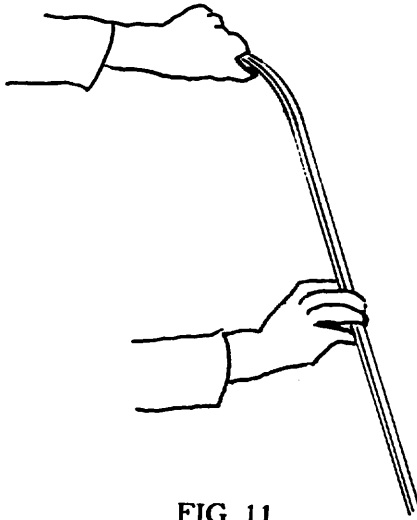

FIG 11
10) Remove the battens from the bag, lay them on the ground, and check them for symmetry, side to side. (Fig 11) Correct any that are assymetric.(See the tuning and maintenance sections of this manual for more information on batten shaping.) Separate the right side battens (those with black tape around the tail end)